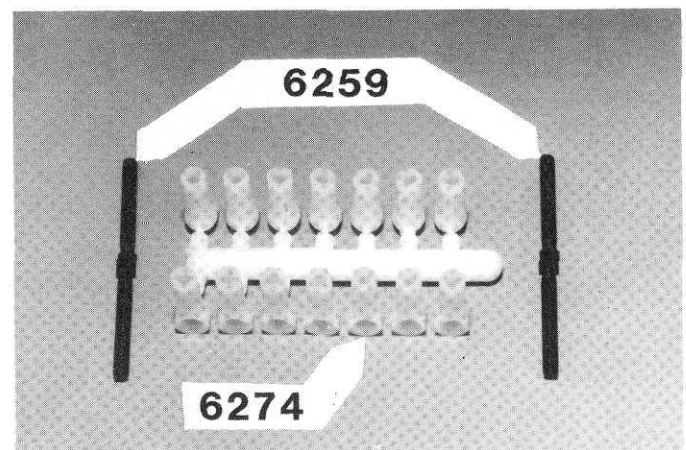

Fig. 16
□ **Fig. 16** In Bag #6-1 take out the 2 #6259 threaded turnbuckles, and from bag #6-14 take out the #6374 plastic ball rod ends, as shown. Twist the rod ends and take 4 of them off.